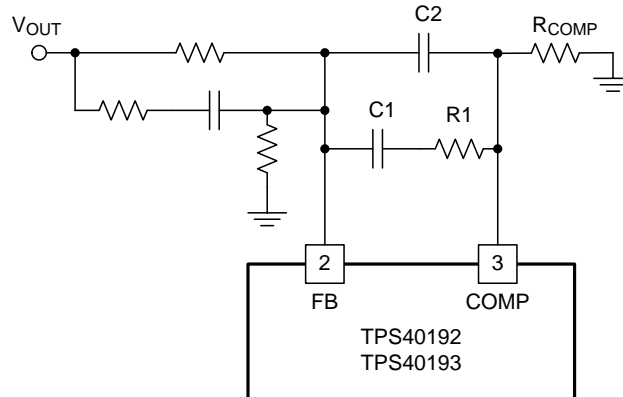

Figure 14. Short Circuit Threshold Feedback Network
- R1 and C1 are the values of the components in Figure 14 (1)